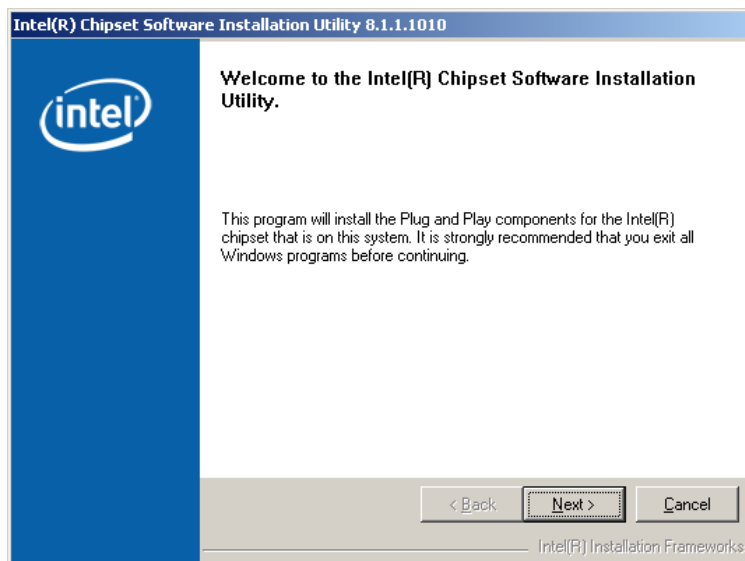

Figure 7-3: Chipset Driver Installation Welcome Screen
Step 6: The welcome screen in **Figure 7-3** appears.